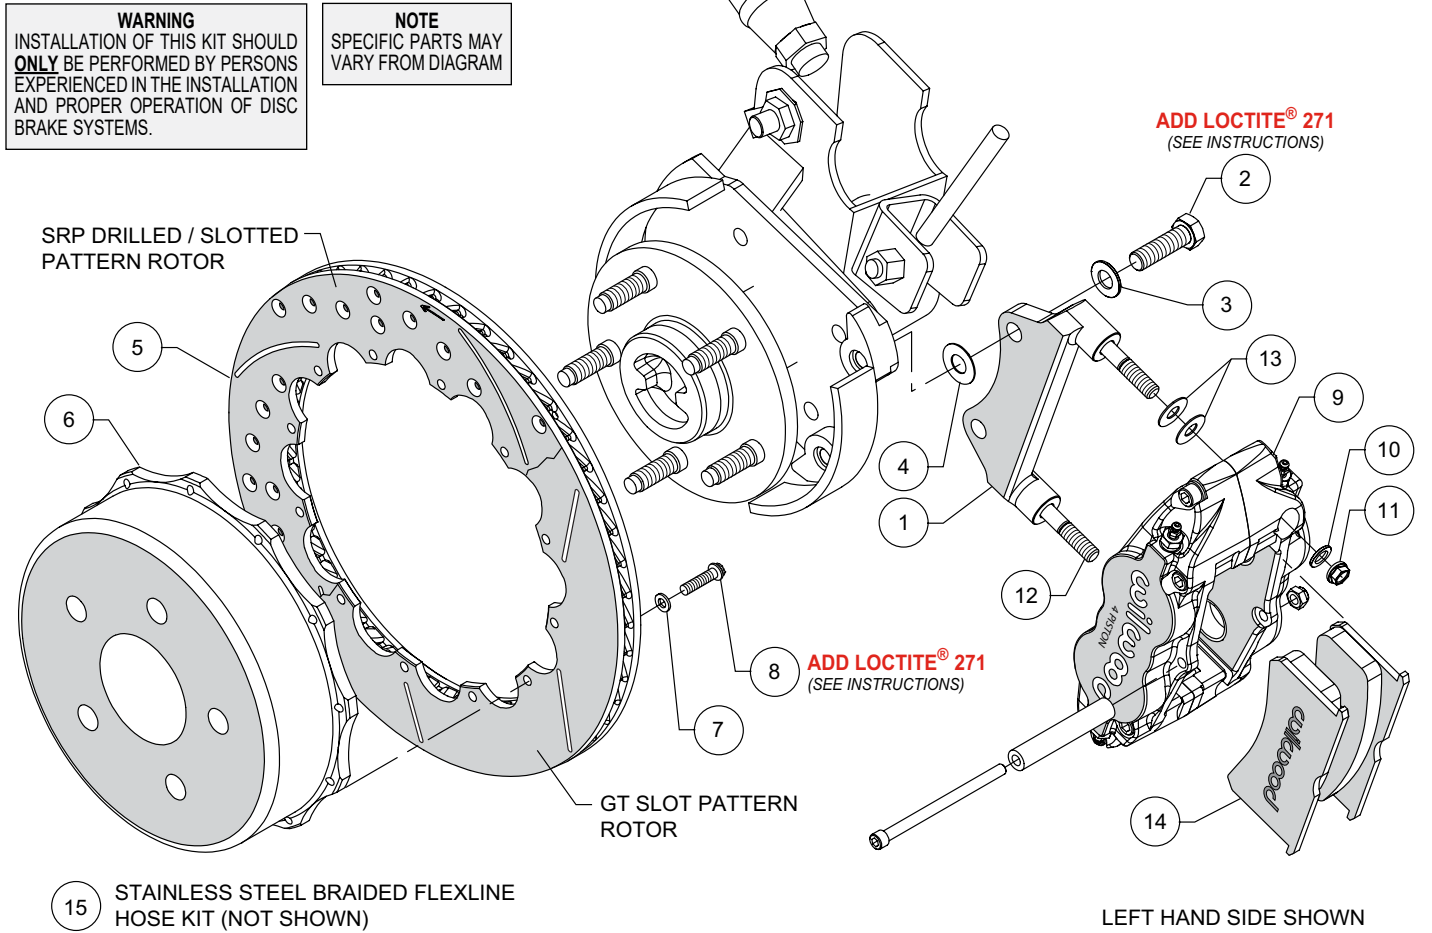
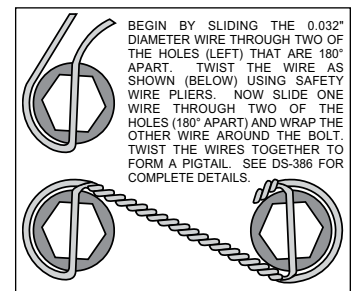

Figure 1. Typical Installation Configuration
Figure 3. Safety Wire Diagram
Assembly Instructions (numbers in parenthesis refer to the parts list and Figure 1 on the preceding pages):
- The caliper mount bracket (1) should initially be installed with clean, dry threads on the mounting bolts. Orient the bracket as shown in Figure 1, and install using mount bolts (2) and washers (3). Initially place one .033" thick shim (4) on each bolt between the bracket and upright, Figure 1. Temporarily tighten the mounting bolts. **NOTE:** The bracket must fit squarely against the mount bosses on the upright. Inspect for interference from casting irregularities, machining ridges, burrs, etc. Later, after the caliper alignment has been checked, the mount bolts will be secured using red *Loctite*® 271.
- Orient the rotor (5) and the hat (6) as shown in Figure 1 and Photo 2. Attach rotor to hat using bolts (8) and washers (7). Apply red *Loctite*® 271 to the bolt threads and torque to 140 in-lb using a criss-cross pattern. The bolts must be safety wired using standard 0.032 inch diameter stainless steel safety wire as shown in Figure 3. Please refer to Wilwood's data sheet DS-386 (available at www.wilwood.com/Pdf/DataSheets/ds386.pdf) for complete safety wire installation instructions.
- Initially place two .035" thick shims (13) on each stud (12) as shown in Figure 1 and Photo 4. Mount the caliper (9) onto the bracket (1) using lock nuts (11) and washers (10), Figure 1. Temporarily tighten the lock nuts and view the rotor through the top opening of the caliper. The rotor should be centered in the caliper, Photo 5. If not, adjust by adding or subtracting shims (4) between the bracket and the mounting bosses. Always use the same amount of shims on each of the two mounting bolts. Once the caliper alignment is correct, remove the bracket mounting bolts one at a time, apply red *Loctite*® 271 to the threads, and torque to 60 ft-lb.